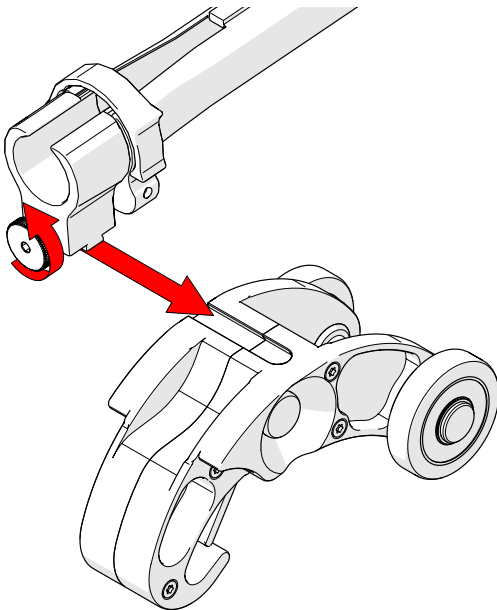

Fig. 148 - Loosen and slide on
1. Loosen the knob on the cable management dovetail mount. Slide the mount onto the heavy duty dovetail QuickLink (Fig. 148).